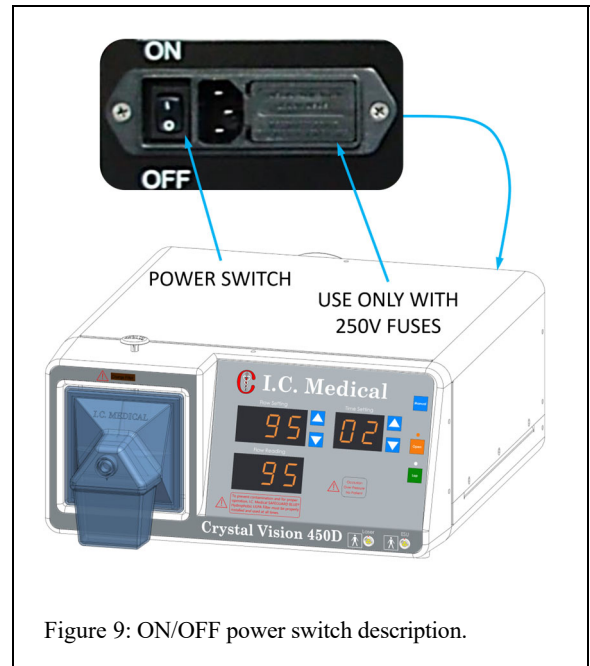

Figure 9: ON/OFF power switch description.
1. The CRYSTAL VISION® power switch (Figure 9) is located on the back panel, next to the power cord. Place this in the "ON" [I] position. When unit is turned ON, the FLOW SET, indicators and display for TIME and FLOW should illuminate.